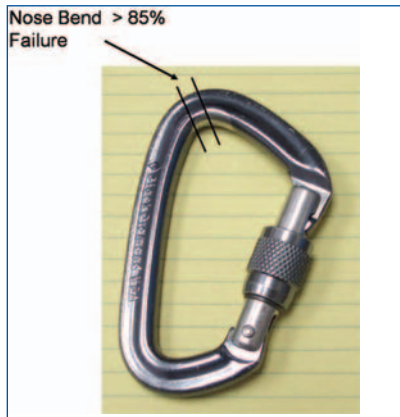

Figure 1: A locking-gate Carabiner. Greater than 85% of all failures occur at the nose bend.
Examples of data produced using the DigiView IV detector are shown in figures 1 and 2.
**Figure 1: Deformed Copper – An Orientation map from a 75% cold rolled high purity copper sample. The large amount of deformation present produces significant orientation changes within parent grains. OIM can be used to investigate the correlation of orientation to deformation behavior.**
**Figure 1:** Typing in the known element concentrations in the compound standard (in this case  $\text{Fe}_2\text{O}_3$ ), the Genesis software is calculating the SEC factor by selecting the SEC button.
For determining the SEC factor of oxygen,  $\text{Fe}_2\text{O}_3$  could be used. See Figure 1 showing the setup.